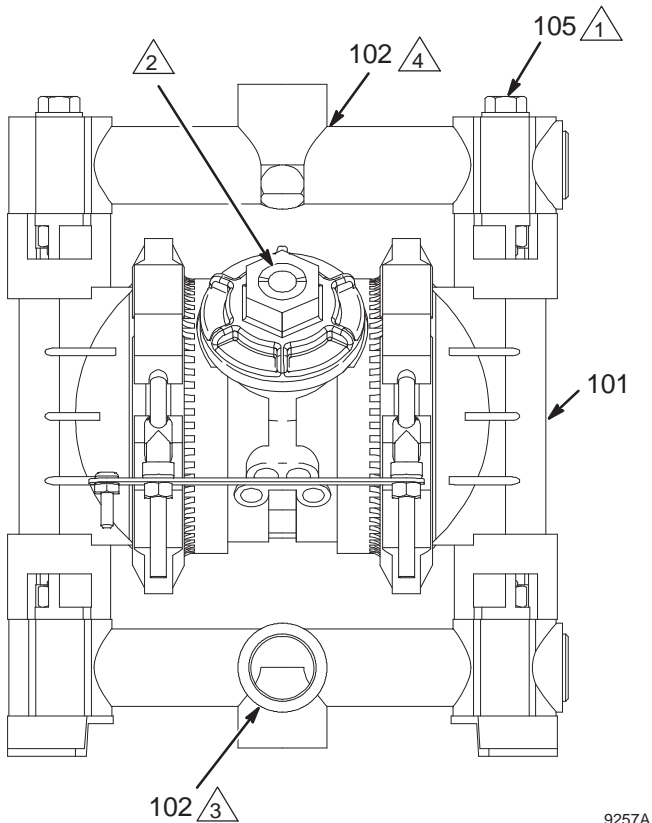

Fig. 4
- The pump fluid inlet is 3/4 npt(f). See FIG. 4. Screw the fluid fitting into the pump inlet snugly. **Do not overtighten.**
- Use electrically conductive fluid hoses (L). Be sure the lines are bonded all the way from the grounded pump to the waste storage tank.
- The pump fluid outlet is 3/4 npt(f). See FIG. 4. Screw the fluid fitting into the pump outlet snugly. **Do not overtighten.**
- Install a fluid drain valve (C) near the fluid outlet. See the **WARNING** above.
You can change the direction of the fluid inlet and outlet manifolds (102), if desired. Model 241906 is shipped with the fluid inlet manifold pointing toward the air inlet and the fluid outlet manifold pointing away from the air inlet. See FIG. 4.
1. Remove the bolts (105) holding the manifold (102) to the covers (101). Save the attaching hardware.
2. Turn the manifold to the desired position, and reinstall the hardware. Torque the bolts (105) to 80 to 90 in-lb (9 to 10 N•m). See **Torque Sequence**, page 22.